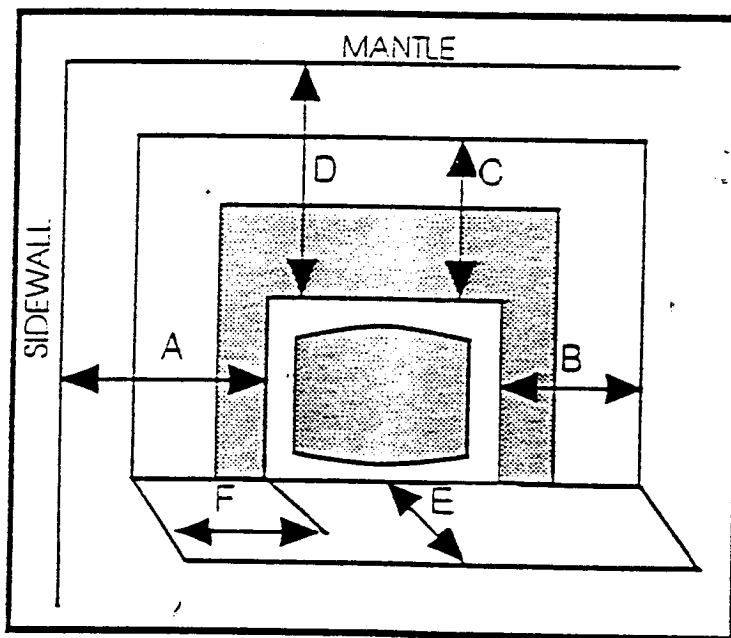

Figure 10
- \* **Required Floor Protection:** (Fig. 10)
## FLOOR PROTECTION: (Fig.10 )
## CLEARANCE TO COMBUSTIBLES: (Fig. 10)
NOTE: For clearances, use this clearance diagram (fig. 10 ) or the clearance diagram on the safety label attached to the back of the appliance.